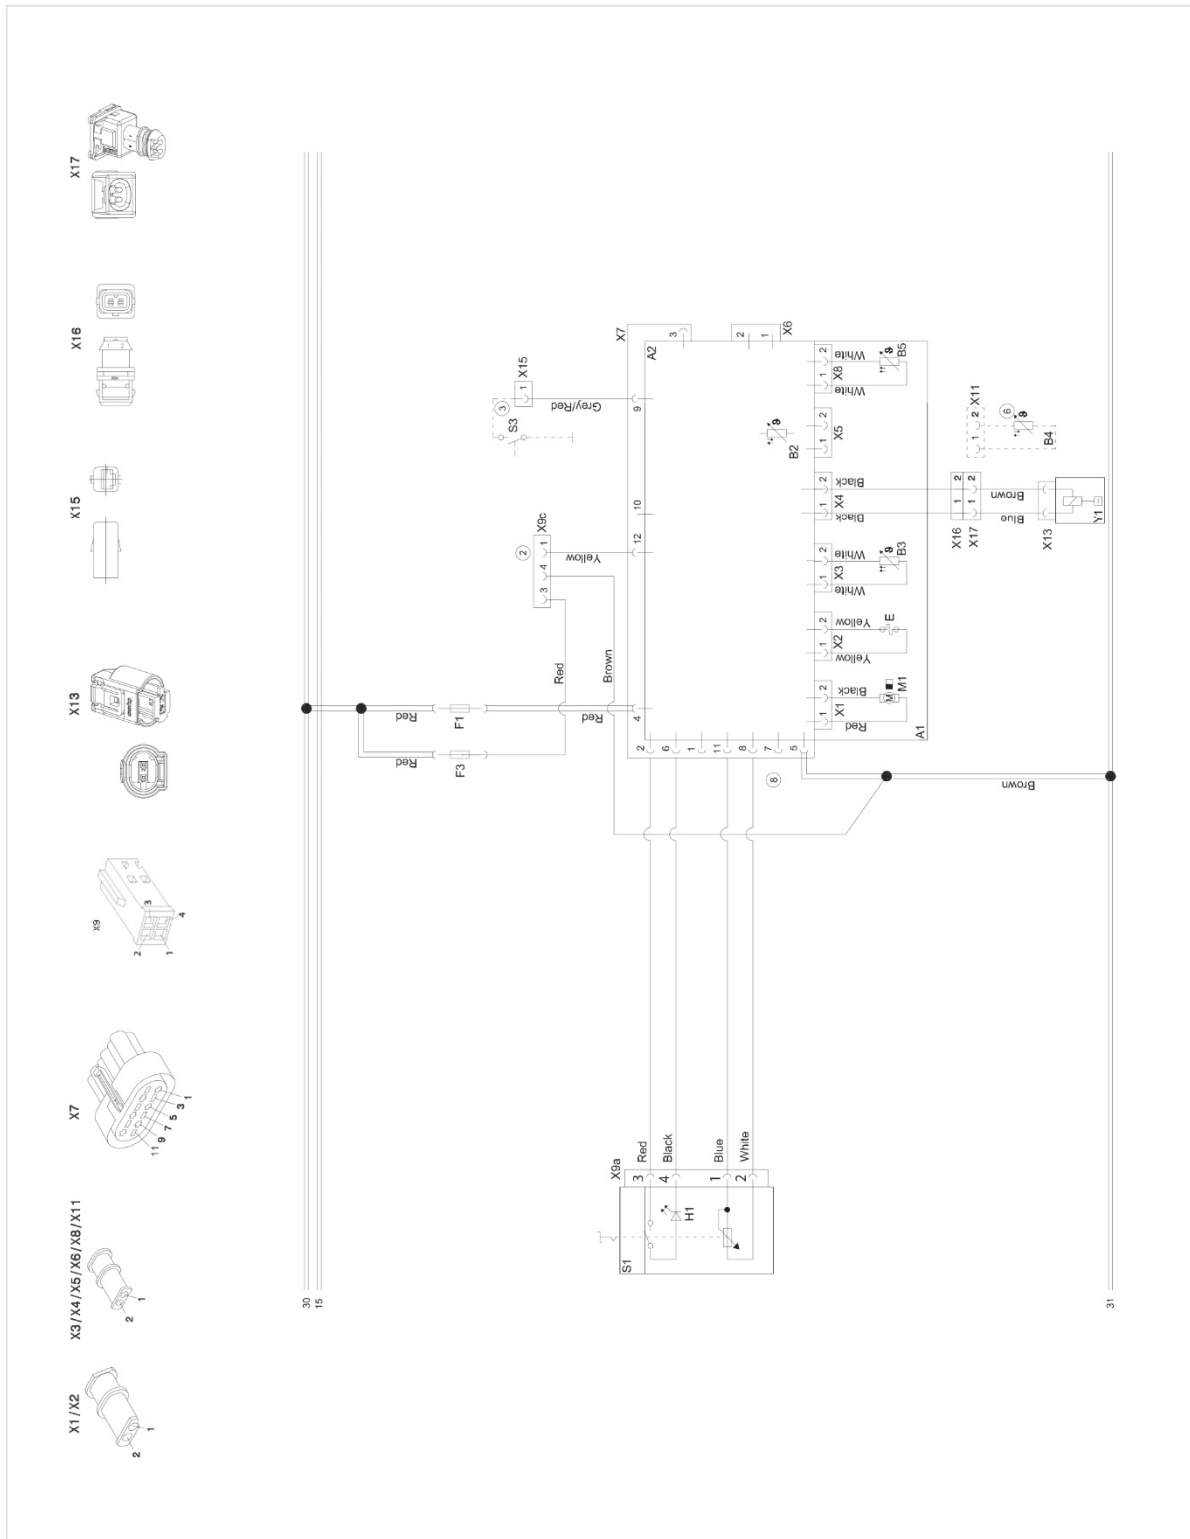
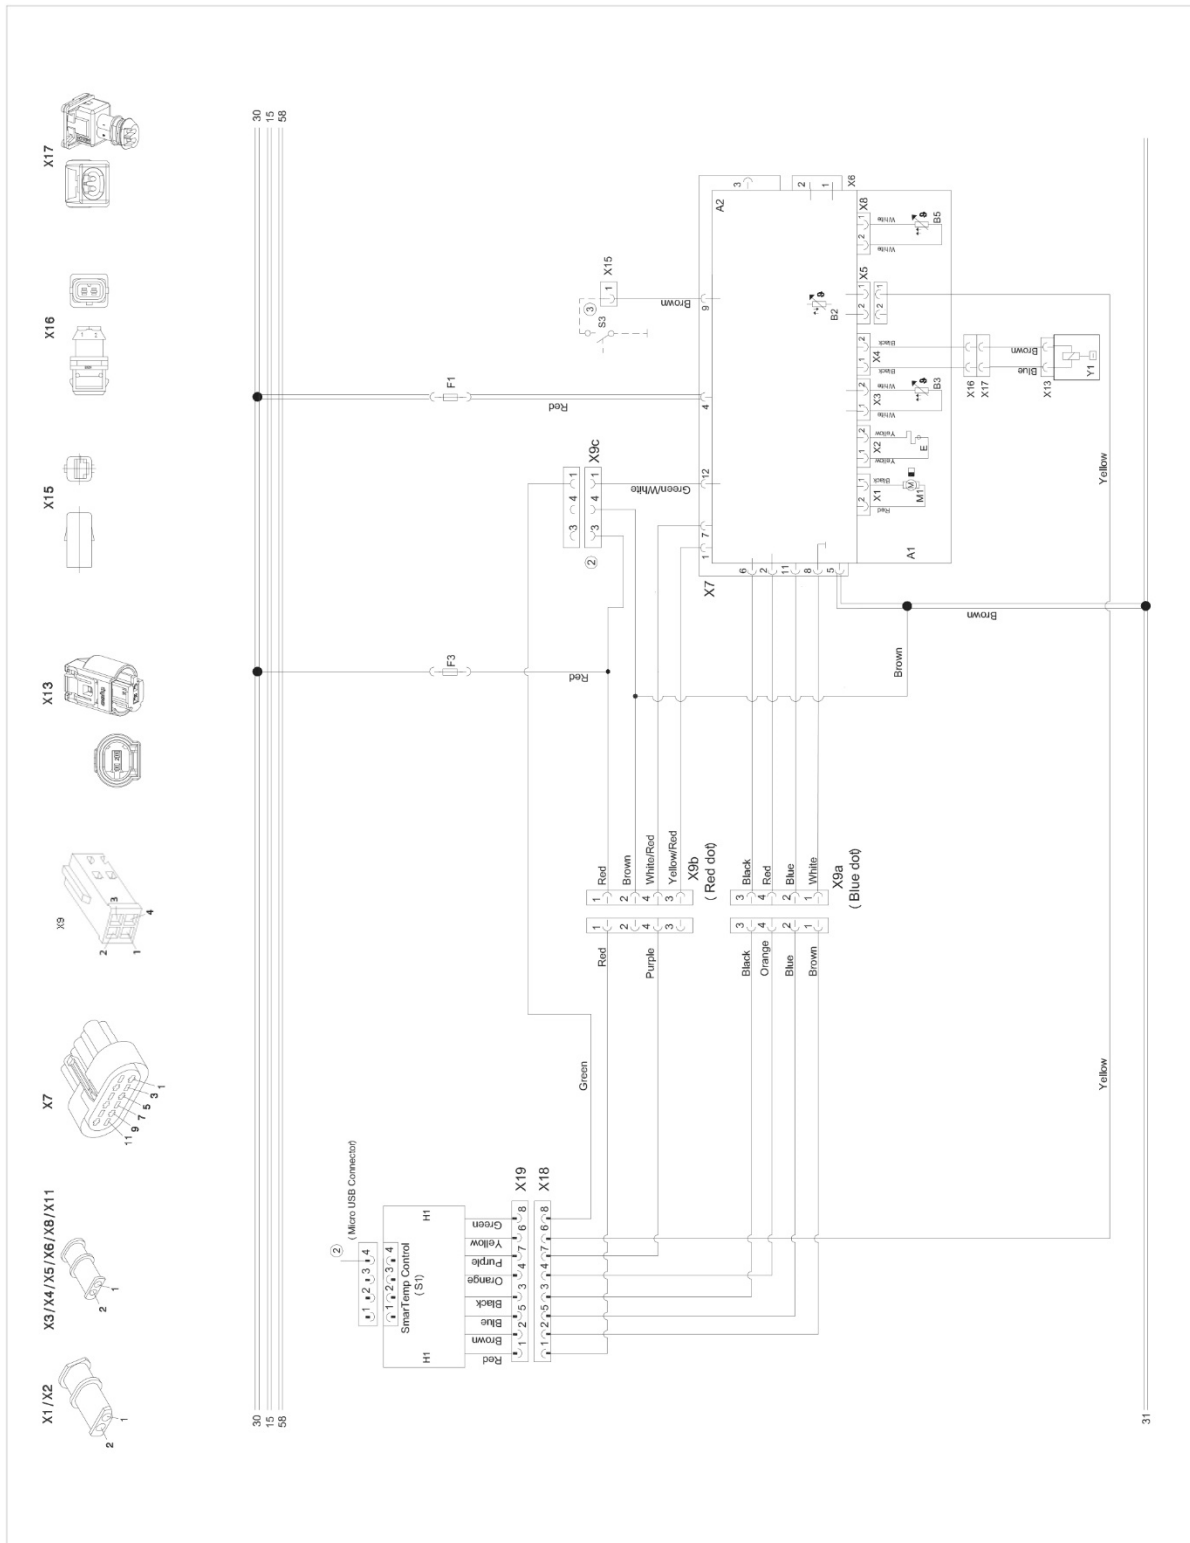

Figure 15: Wiring Diagram for Air Top Evo 40 / 55, 12V / 24V with rheostat
Figure 17: Wiring diagram for Air Top Evo 40 / 55, 12V / 24V with SmarTemp
The Air Top Evo 40 / Air Top Evo 55 heaters can be operated with the rheostat, Smartemp or the Air Top Evo Multi Control (MC04) control element. The wiring diagrams (Figure 15 to Figure 17) show the possible circuits for 12V or 24V.
- Rheostat (Figure 15)
- Smartemp (Figure 17)